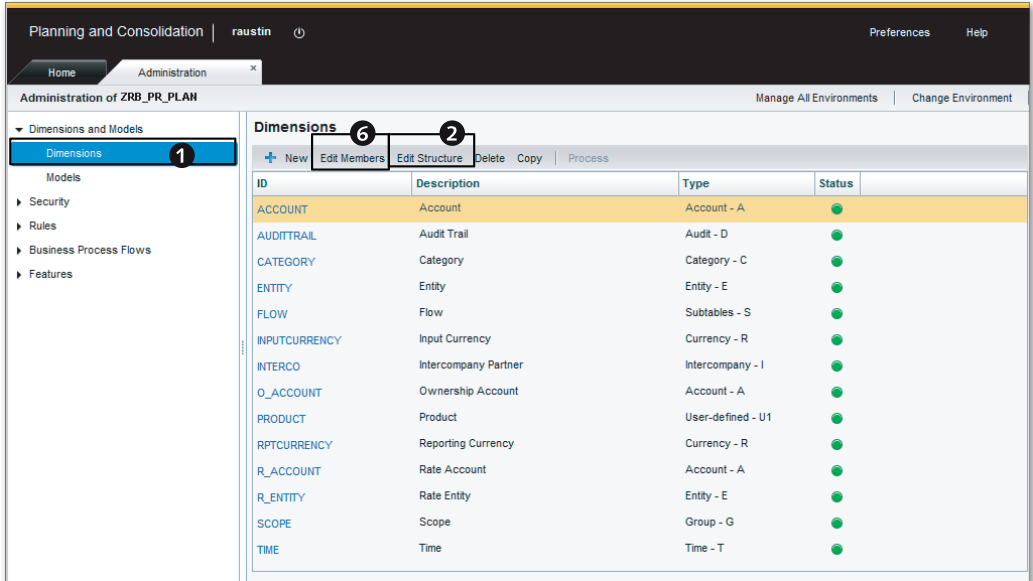

Figure 3.28 Displaying Dimension Properties and Member Data—Part A
1. In the ADMINISTRATION workspace, select DIMENSIONS in the left pane, and then click on the ACCOUNT dimension (Figure 3.28, ❶). Then click on EDIT STRUCTURE (Figure 3.28, ❷) to view the properties.
3. Click on EDIT MEMBERS (Figure 3.28, ❻) to edit/display the DIMENSION MEMBERS. The member IDs and their descriptions are displayed (Figure 3.30). Member IDs are case-sensitive. If you have defined hierarchies when editing the structure, you can make assignments to the hierarchies here. After editing dimension members, click on SAVE AND PROCESS (Figure 3.30, 7) to activate the changes.
1. To copy a dimension, click on DIMENSIONS in the left pane (refer to Figure 3.28, ❶). Select the ACCOUNT dimension, and click on the COPY option.
1. To create a new dimension, click on DIMENSIONS in the left pane (refer to Figure 3.28, ❶). Select NEW from the list of menu options.
1. To add data manually, click on DIMENSIONS in the left pane (refer to Figure 3.28, ❶). Select the RB_ACCOUNT dimension, and click on EDIT MEMBERS. This displays the member, hierarchy, and property data of the dimension. Delete the